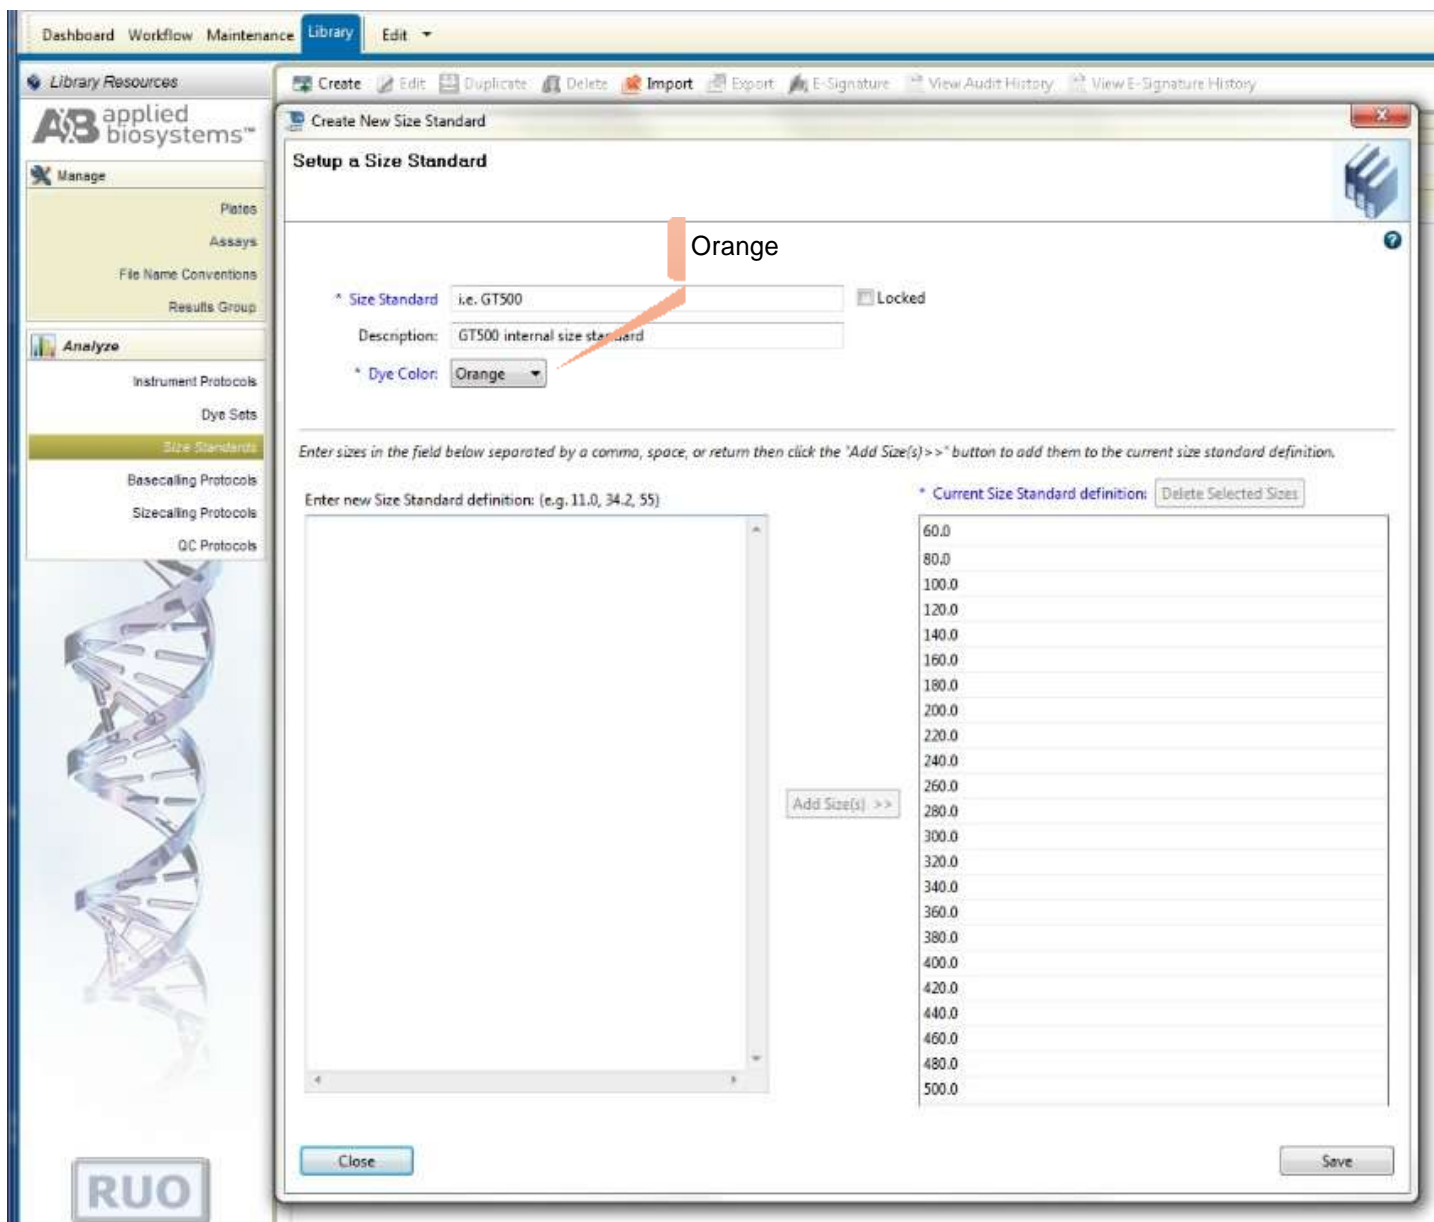

Figure 6. Screenshot for the “Create New Size Standard” window on Applied Biosystems 3500 Data Collection software.
- c) Select “Create” (Figure 6)